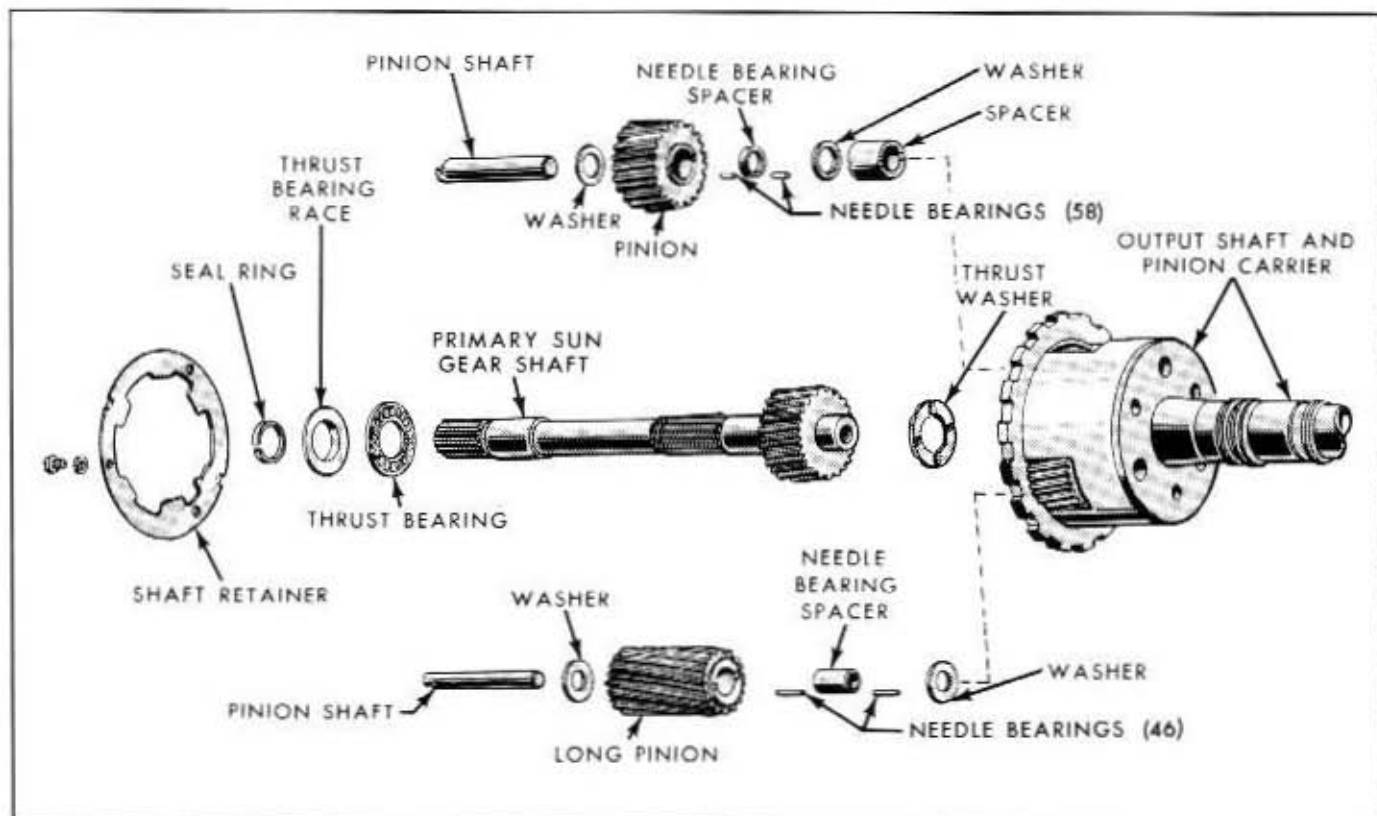

Fig. 7A-32—Pinion Carrier and Primary Sun Gear Shaft—(60C-4432)
4. While holding the long pinion assembly together, place it in position in the pinion carrier. Insert the pinion shaft, marked for this location, from the front of the carrier and push out the dummy shaft. Refer to figure 7A-31.
7. Place the primary sun gear shaft in the pinion carrier. Refer to figure 7A-30.